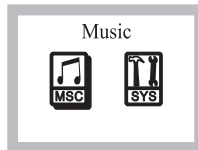

Fig. 16
- (K) Enter the Main Mode: USB flash drive not inserted or press & hold STOP button during playback.
- (1) Music Mode: Insert USB flash drive and press PLAY/PAUSE  to play music, Fig. 16.